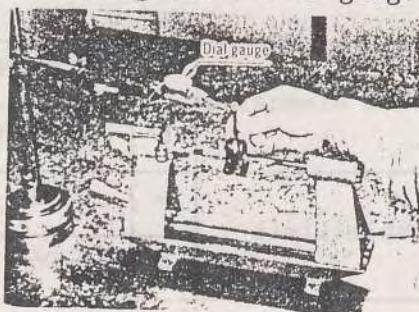

Fig. 6
- (3) Clearance between hole in connecting rod big end and crankpin (Fig. 6)